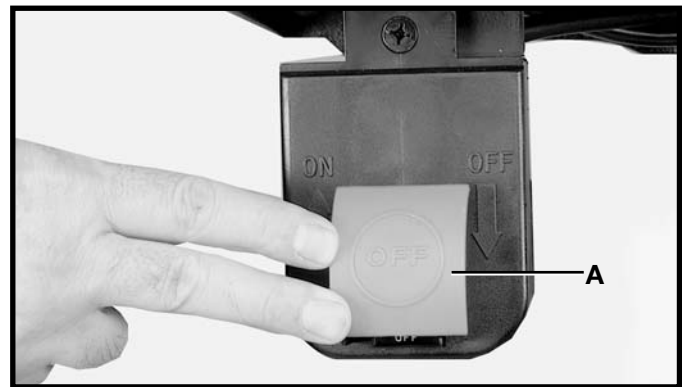

Fig. 95
2. To turn the saw "OFF," simply push down on switch shield (A) Fig. 95.